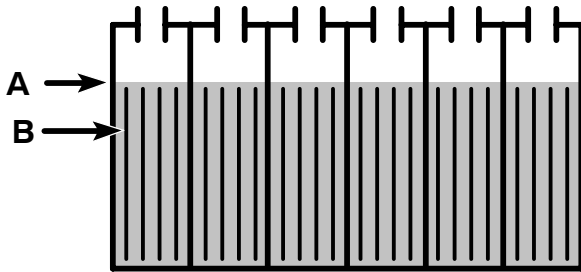

FIG. 27
The electrolyte level (A) should slightly cover the battery plates (B). Add distilled water as needed. DO NOT OVERFILL, the fluid may expand and overflow while charging. Replace cell caps before charging (Figure 27).